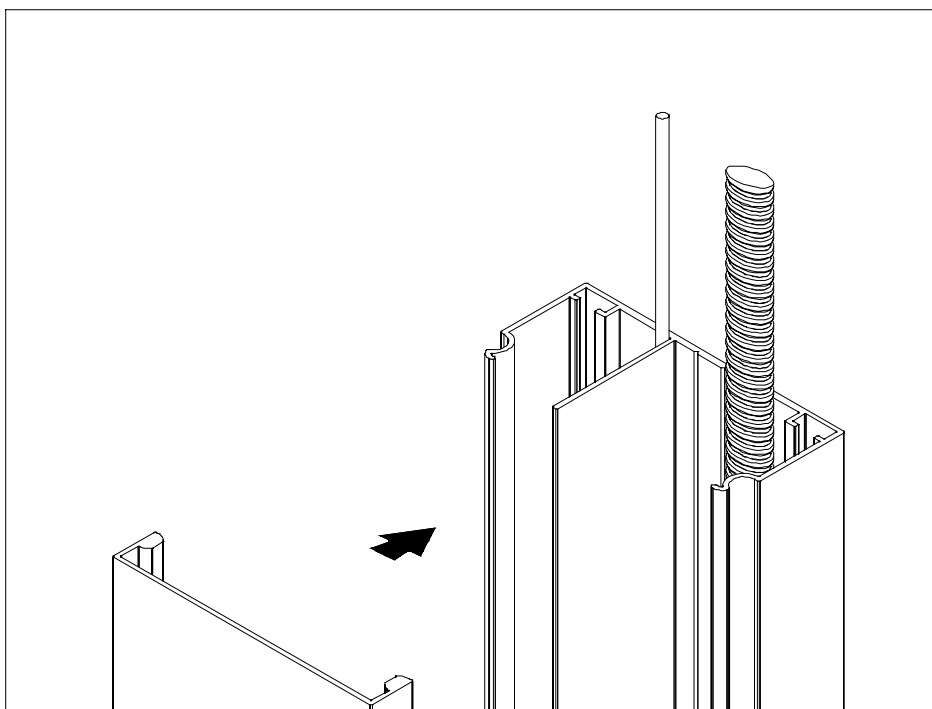

FIGURE 3
4. Lay the data and power cables in the power pole. Clip the two halves of the power pole together (Figure 3).